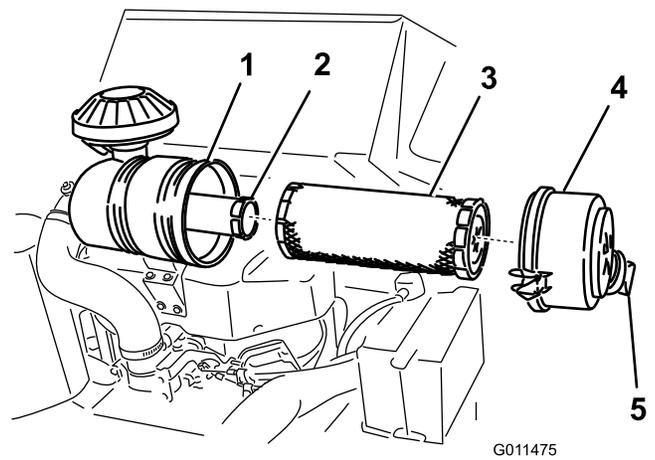

Figure 33
3. Release the latches on the air cleaner and pull the air cleaner cover off of the air cleaner body (Figure 33).
1. Gently slide the primary filter out of the air cleaner body (Figure 33). Avoid knocking the filter into the side of the body.
4. If you are replacing the safety filter, carefully slide the new filter into the filter body (Figure 33).
5. Carefully slide the primary filter over the safety filter (Figure 33). Ensure that it is fully seated by pushing on the outer rim of the filter while installing it.
6. Install the air cleaner cover with the dust cap oriented as shown in Figure 33 and secure the latches.